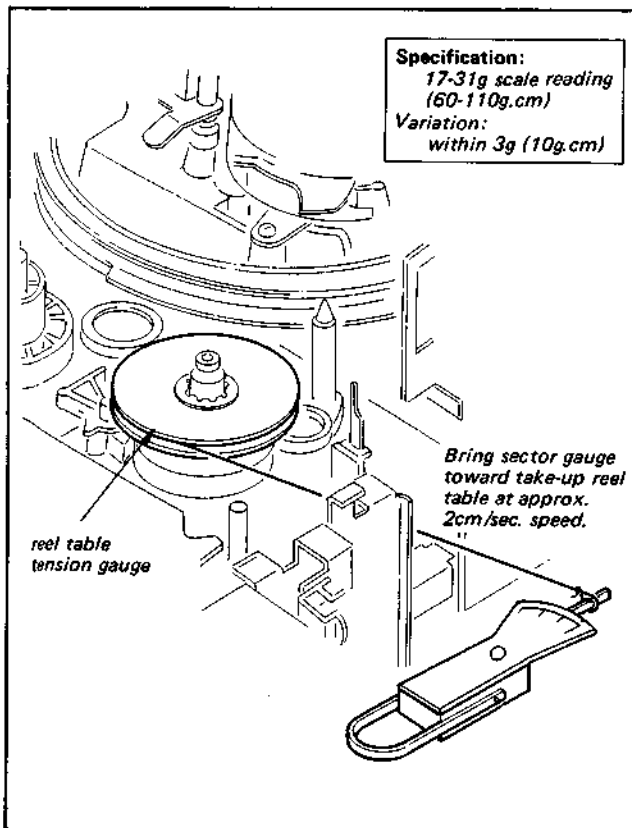

Fig. 3-39. Check of take-up torque
4. Attach the reel table tension gauge (Tool Kit Ref. No. J-5) on the take-up reel table as shown in Fig. 3-39.
7. Bring the sector type gauge toward the take-up reel table at a speed of approx. 2cm/sec. (8 inch/sec.) as shown in Fig. 3-39. Confirm that the gauge reading is within the specification. If not, replace the FWD limiter assembly and make the check again.